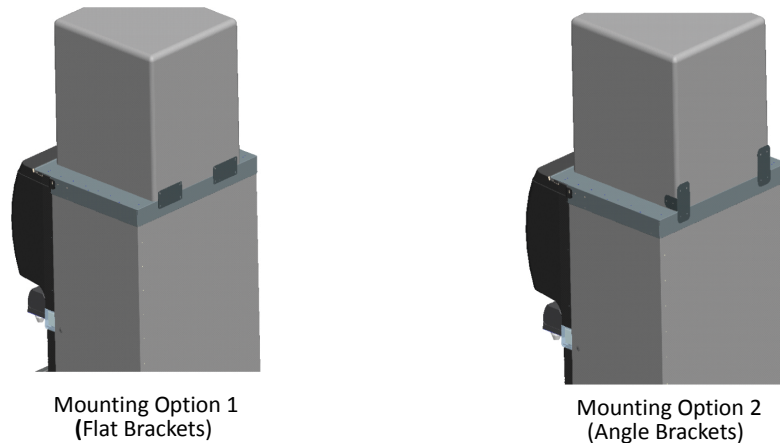

Figure 3.
Two options are supplied with this kit for securing the icemaker to the kit (See Figure 3.)
8. The next step is to secure the icemaker to the kit. Depending on the mounting method chosen, use the appropriate brackets (supplied) as templates to drill four 9/64" (.140" Dia.) holes into the back side of the adaptor kit. Drill four holes of the same diameter into the icemaker (Figure 3.) Ensure the location of the brackets will not damage the kit or the icemaker prior to drilling any holes. **USE EXTREME CAUTION NOT TO DRILL INTO ANY OTHER COMPONENTS.** Drill depths should not go further than the thickness of the material being drilled (just enough to go through). Secure the brackets using the screws provided.